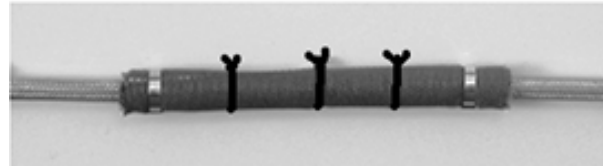

Figure 43. Installed Two Layer Sleeving
30. **EMI Shielded Wrap-around Repair with Two Layer Sleeving.** This sleeving (Roundit 2000NXEMI) (Figure 43) is a flexible, two-layer product combining Mechanical Protection and EMI shielding (Figure 44). It has passed EMI testing as per Mil-Std 461 and 464, meets specifications of EN 6049-006 and is rated for temperatures between -55°C to 200°C . This application is intended for repair, or use on single shielded wire harnesses only. It is not for use on double shielded harnesses, or EMP hardened cables. The sleeving is best suited for: EMI protection and bundling for electrical harnesses in all aircraft zones, modification in the original shielded harness and for repair of damaged EMI shielded harnesses. Two versions of the sleeving are available: